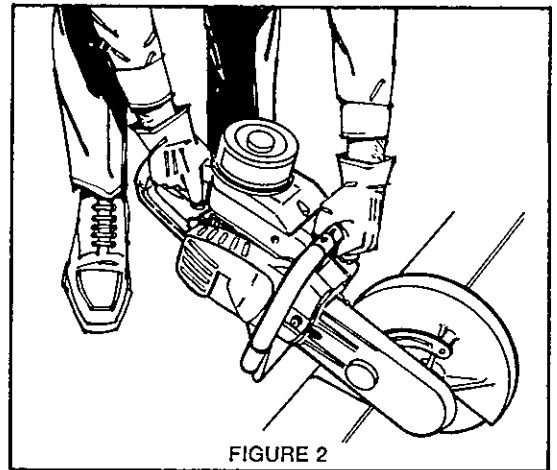

FIGURE 2
8. Do always hold the machine with both hands when the engine is running. Use a firm grip with thumbs and fingers encircling the handles. (Fig. 2)